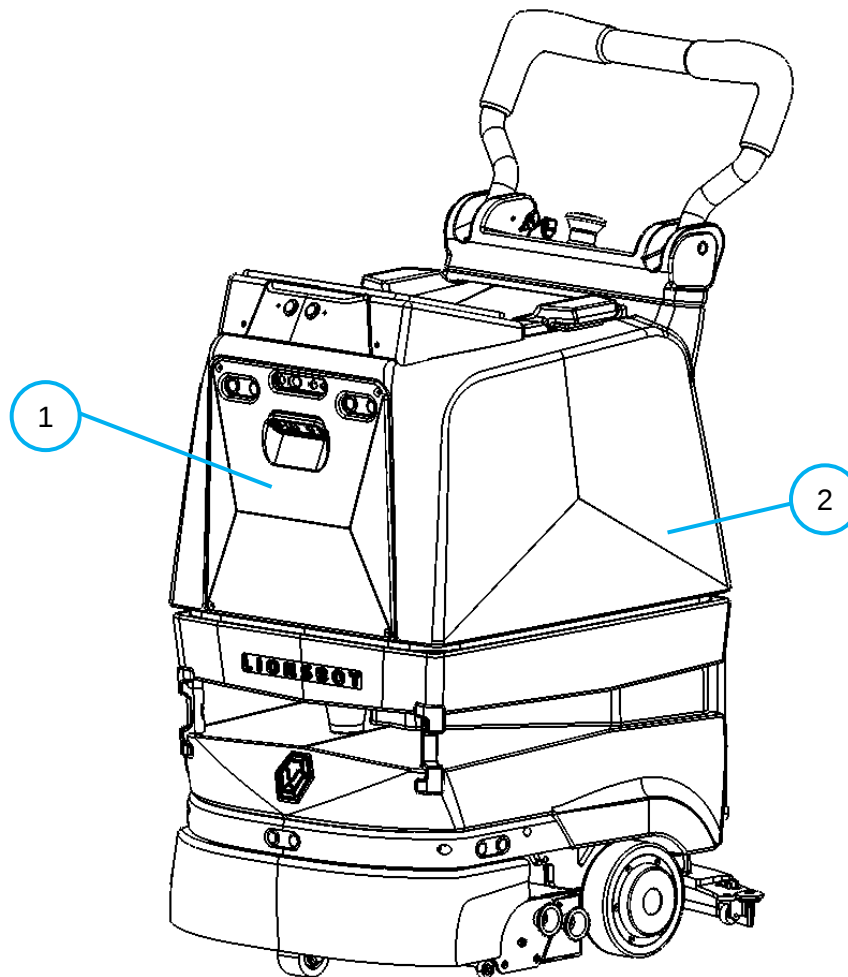

Fig. 1
- Press the reset button (Fig.1 blue circle highlighted) to return the robot to a usable state.
The R3 SCRUB is equipped with LED strip on the sides (Fig 1 – 2). The LED lights help to convey various state of the robot – for example, when the robot is under emergency stop all the lights will blink red.
The eye panel (LED Matrix, Fig. 1 – 1) conveys the mood or emotion of the LeoBot. The eyes appear happy, sad, or tired depending on the circumstances and state of the robot.